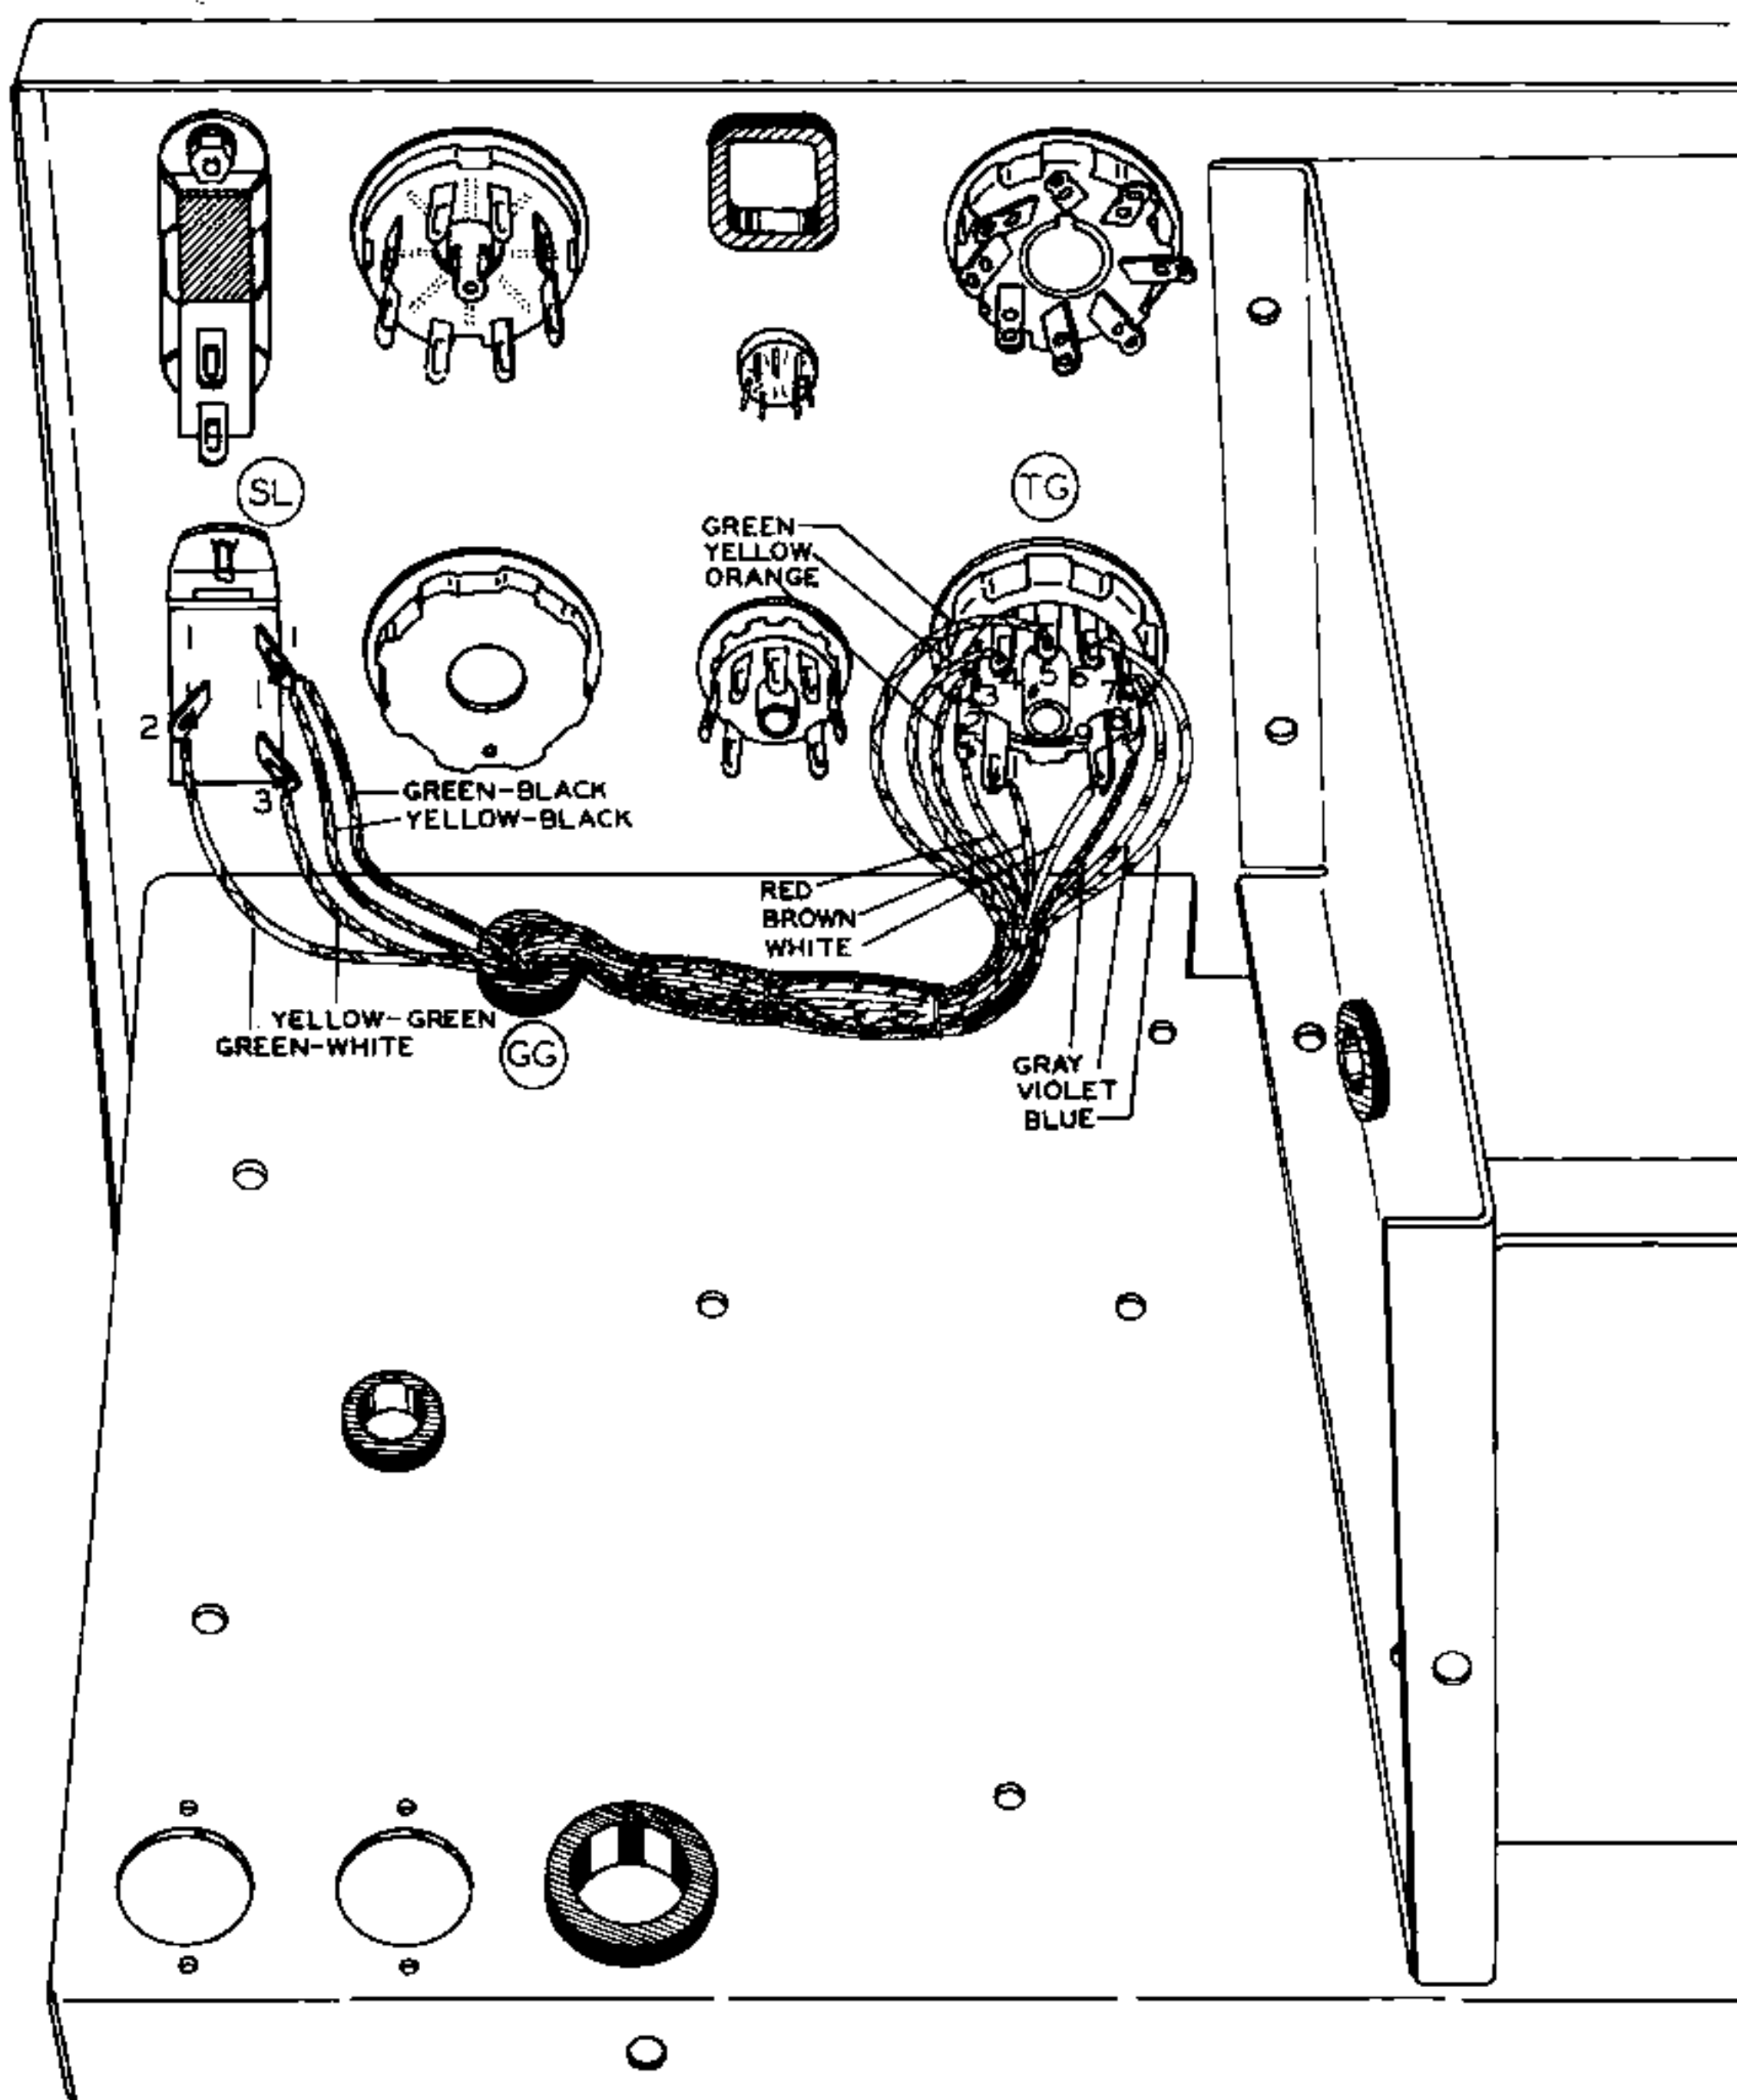

Figure 21
- ( ) Starting from the bottom side of the chassis, slide the tube socket end of the SELECTOR switch to tube socket harness through grommet GG. Slide the chassis down onto the harness as necessary to allow working space to make connections to socket TG and switch SL, as shown in Figure 21.